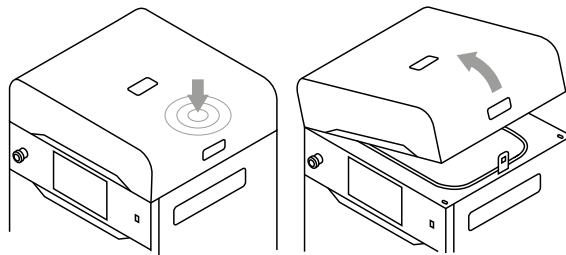

Fig. 3.1 Lifting the printer lid.
4. Push on the lid and pull it up using the handle (fig. 3.1).